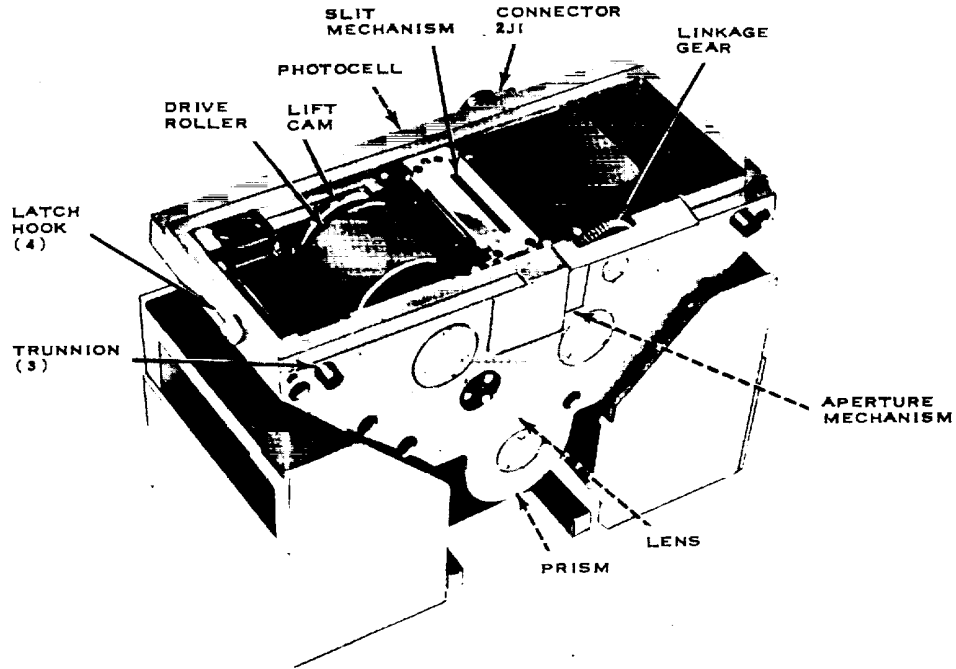
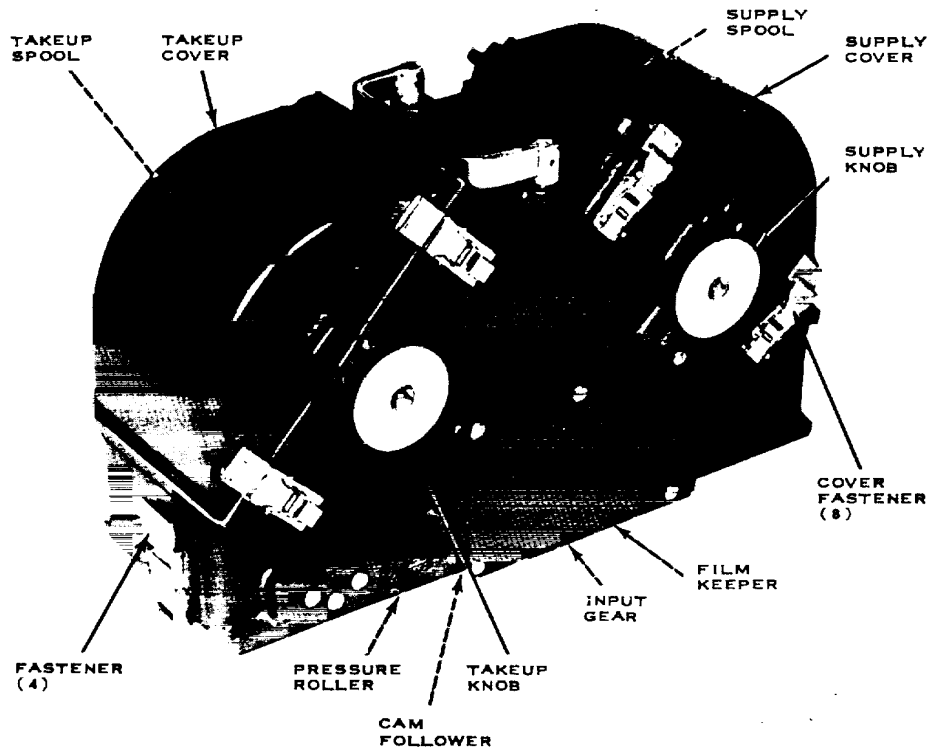

Figure 2. Body.
Figure 3. Magazine.
7. Body (fig. 2)
8. Magazine (fig. 3)
- a. Align the magazine input linkage gear (fig. 3) with the body linkage gear (fig. 2); mount the magazine on the body.
- b. Fasten the magazine to the body by engaging the four latch hooks (fig. 2) with four magazine fasteners (fig. 3).